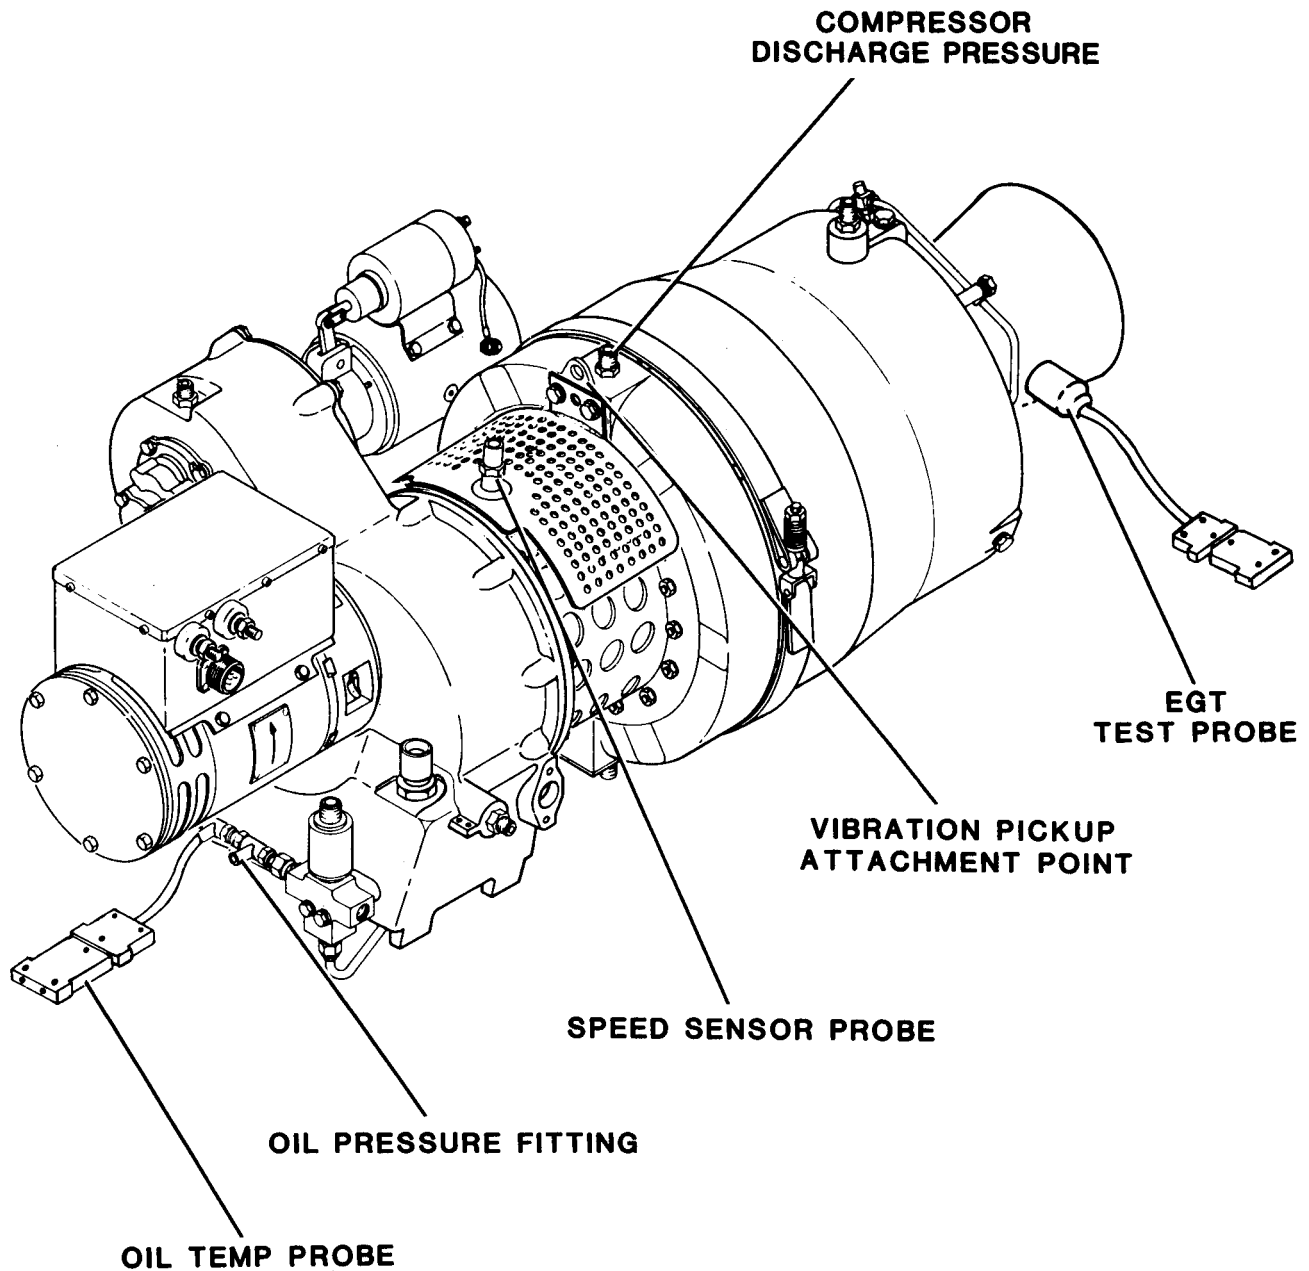

Figure 13-1. Test Equipment Installation
- (1) Starter.
- (2) Low oil pressure switch.
- (3) Fuel manifold with fuel injection nozzles.
- (4) High tension lead.
- (5) Ignition coil.
- (6) Spark igniter.
- (7) Exhaust gas temperature thermocouple.
d. Install test probes and vibration pickups in accordance with figure 13-1.